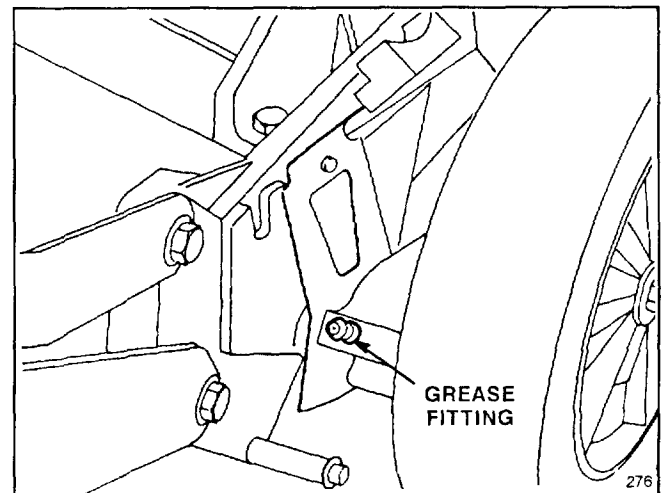

Figure 16
2. Move rear wheel height-of-cut levers to "C" setting. Wipe grease fittings with clean rag (Fig. 16). Install grease gun onto fitting and gently apply two or three pumps of #2 Multi-Purpose Lithium Base Grease.